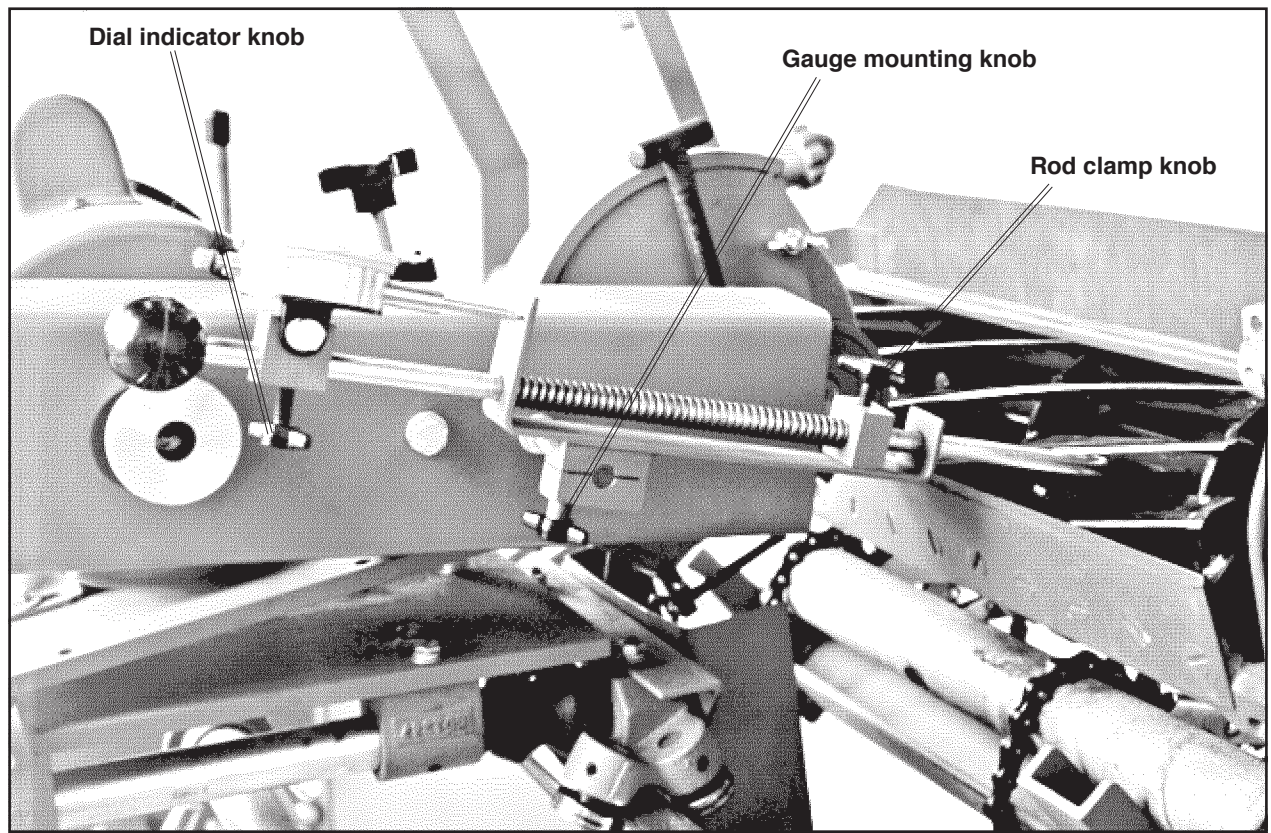

Figure 3.6 Setup gauge
3.5.1 Mount the alignment gauge on the stud as shown in Figure 3.6.